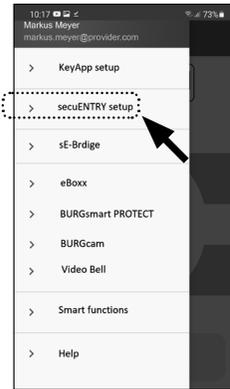

Fig. 6
③ Tap on the menu item "*secuENTRY setup*" (Fig. 6).